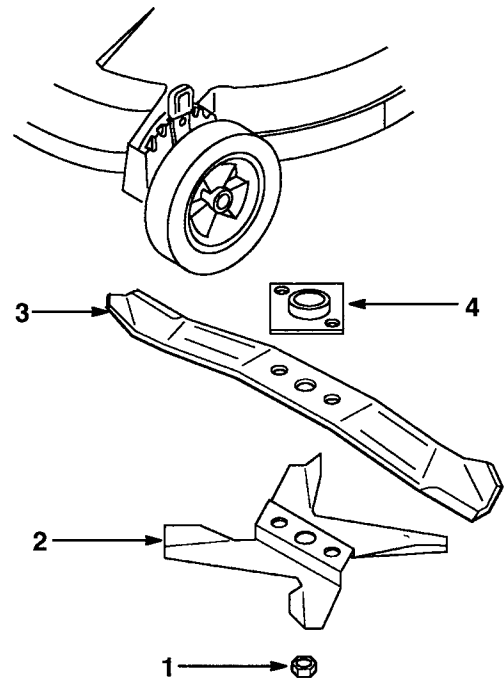

Figure 25
1. Remove blade nut and mulching fan (Fig. 25)
2. Remove blade from blade driver (Fig. 25).
1. Install blade driver onto crankshaft (if removed) (Fig. 25).